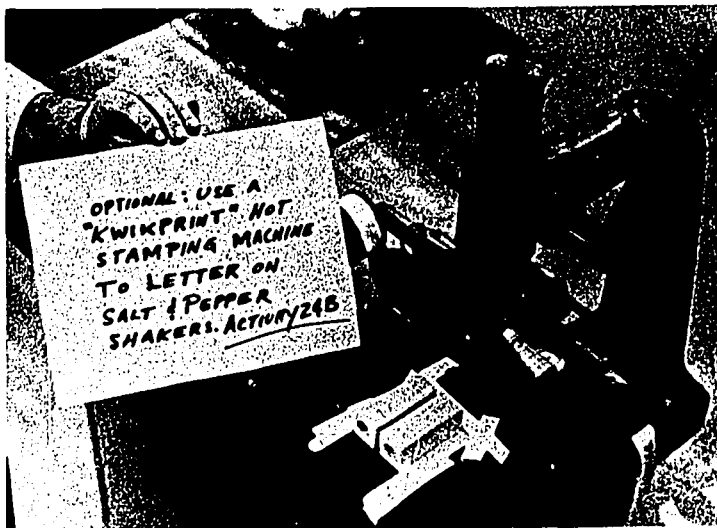

Fig. 53-1. Optional Idea for Marking Shakers
4. See Fig. 53-1 for optional idea for making shakers.